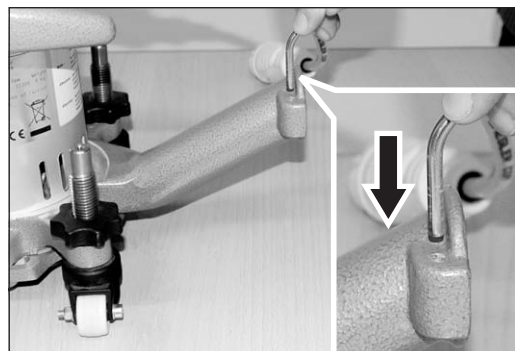

Fig. 4 Installation of the dust bag clamp.
- 2 Install the dust bag clamp in the drilled hole at the end of the suction muff (fig. 4).